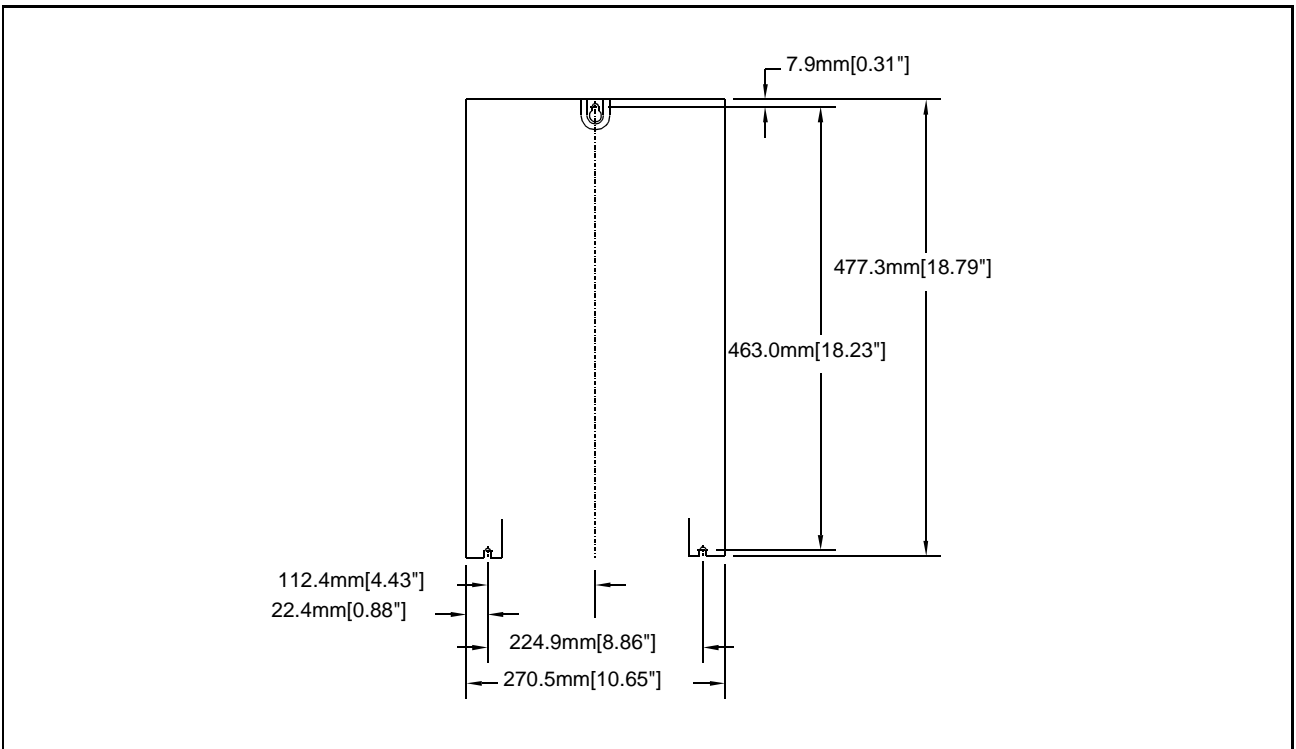

Figure 2 – 1.5 HP to 30 HP @ 230 VAC / 3 HP to 60 HP @ 460 VAC Drive Mounting Hole Pattern
Step 1. Check the hole pattern on the panel to which the drive will be mounted. Refer to figures 2 through 5 for the correct pattern.